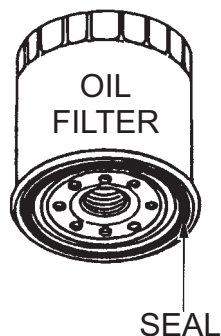

Figure 46. Oil Filter/Seal
10. Be sure to coat the seal (Figure 46) of the new oil filter with clean engine oil.